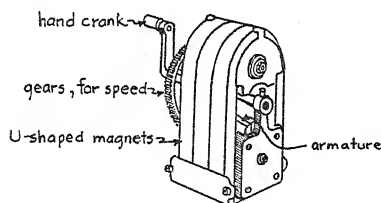

FIG. 56. Magnetos have permanent magnet fields.
**67. The Magneto as a Simple Generator.** The simplest type of generator in common use is called a magneto, because it uses permanent magnets to supply the necessary magnetic flux. A magneto usually has several U-shaped bar magnets clamped firmly together on some kind of frame as shown in Figure 56. Inside these magnets, revolving between their *N-S* poles, is a small, soft iron armature, wound with many turns of wire. Usually, gears are used to make this armature turn faster than the hand crank on the machine.